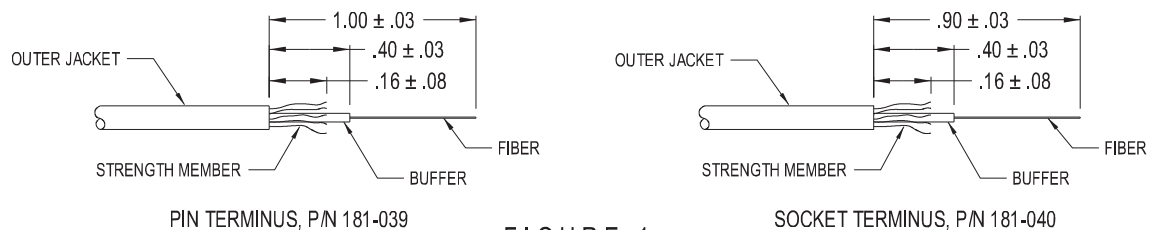

FIGURE 1
4.4 Strip cable to the dimensions in inches that are indicated in Figure 1.